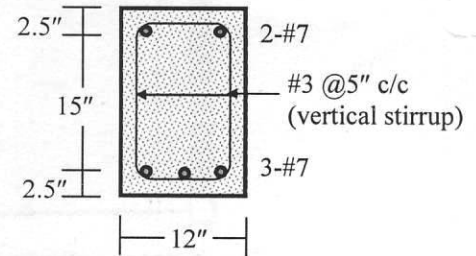
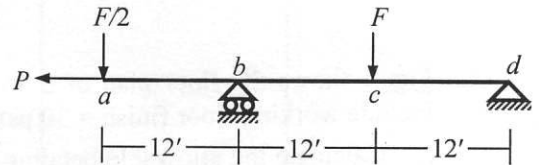

Fig. 1
Fig. 2
1. For the RC section shown in Fig. 1, calculate the
2. For the RC section shown in Fig. 1, calculate the
3. Fig. 1 shows section *c* obtained by USD of the beam *abcd* loaded as shown in Fig. 2. Use BMD of the beam to
4. Fig. 1 shows section *c* obtained by WSD of the beam *abcd* loaded as shown in Fig. 2. Use SFD of the beam to
- (i) Calculate the corresponding live load *F* (neglecting beam self-weight) for the stirrup spacing shown in Fig. 2.
5. Fig. 1 shows section *c* obtained by USD of beam *abcd* (shown in Fig. 2). Calculate (by USD) the
- (ii) Axial Force  $P$  required to make  $V_c = 0$ , and corresponding live load  $F$  (neglecting beam self-weight) for the stirrup spacing shown in Fig. 2.